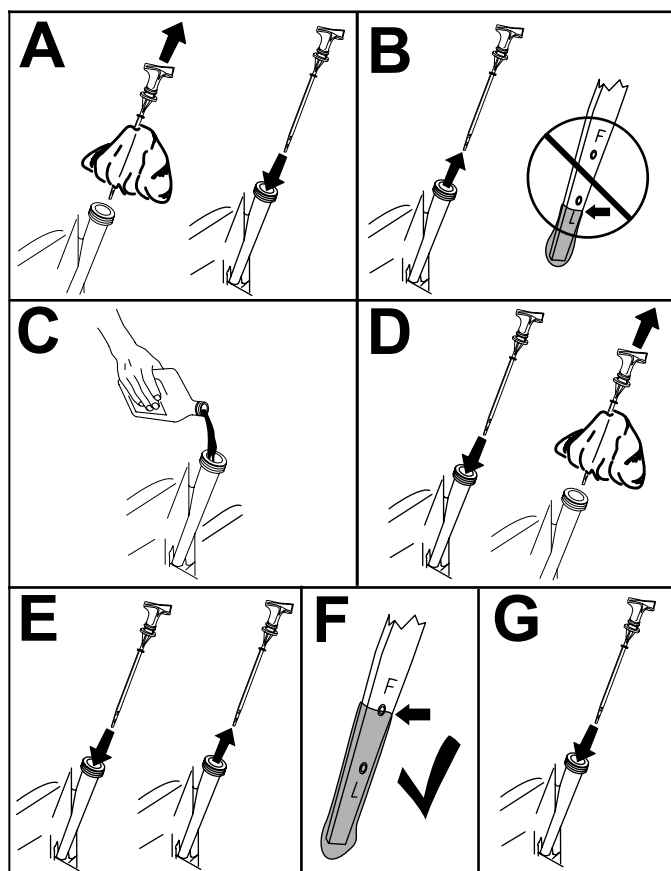

Figure 33
3. Check the engine-oil level (Figure 33).